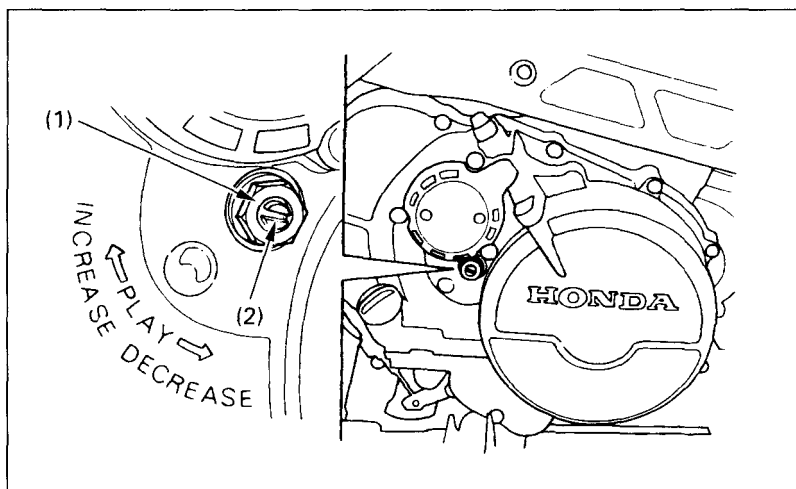

Fig. 4-18 (1) Lock nut
2. Loosen the lock nut (Fig. 4-18), and turn the clutch adjuster (2) counterclockwise until you feel slight resistance.